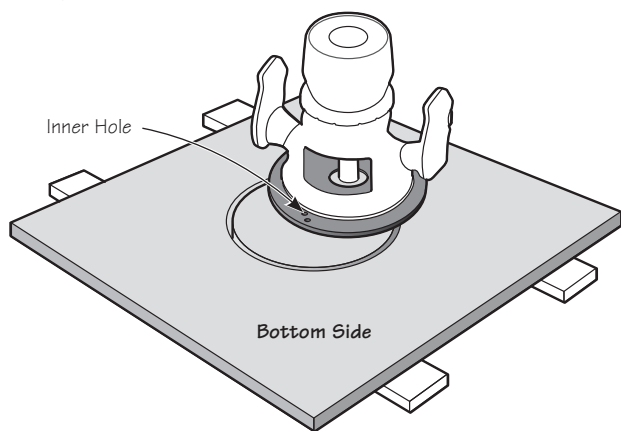

Figure 2: Routing the bottom side of the table top.
4. Remove the alignment pin from your router and replace it with a $\frac{1}{2}$ " bit, adjusted for a depth of cut $\frac{3}{16}$ " less than the thickness of your top. Clamp the table top to your bench, bottom side up and elevated on two scraps of wood whose thickness allows only the $\frac{3}{16}$ " diameter end of the alignment pin to project past the surface of the top. With the **innermost** $\frac{3}{16}$ " drilled hole in the router base plate placed on the projecting alignment pin, rotate the router in a full circle, thus routing a circular groove, as shown in **Figure 2**.